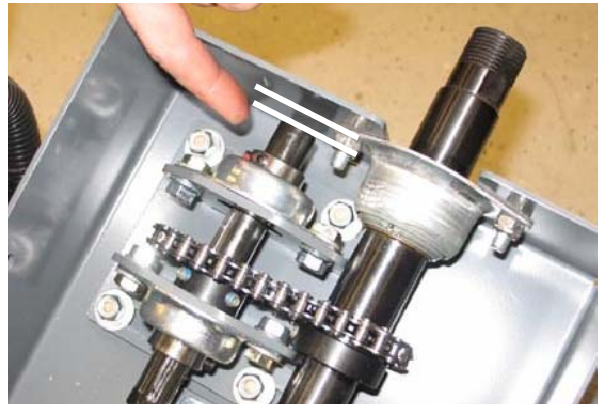

FIG. 31
3. Position the steering shaft in the steering channel as shown in Fig. 31.